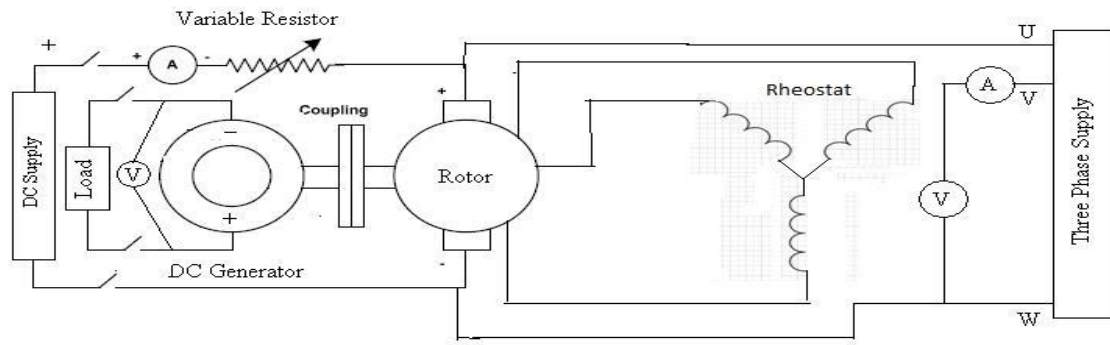

Figure 14.2: Starting of Induction motor
1. According to the given diagram shown in Figure 14.2 connect the different electrical wires.